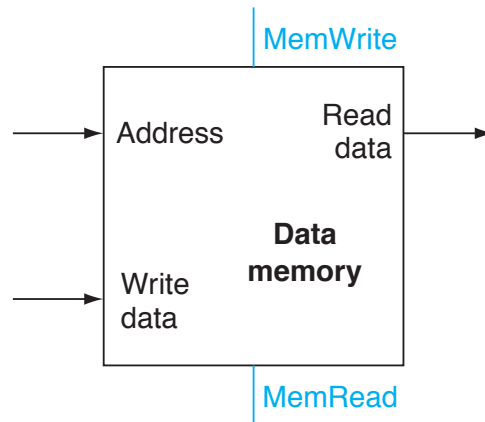

Figure 2: The Data Memory for the MIPS processor
- The data memory provides the microprocessor with a means of storing more long term data. The data memory, in comparison to the register file, is typically much larger in size (i.e. in the kB to MB range) but does not provide as much parallel access, meaning it has less data ports. Figure 2 shows the data memory module that you will describe in Verilog for the MIPS processor implementation. For our implementation, the data memory will provide synchronous read and synchronous write capabilities and include both a read and write enable signal. Access to the memory requires only a single clock cycle, which simplifies the overall design of our microprocessor, but limits the size of memory we can instantiate due to timing constraints. Also note that the storage element in Figure 2 includes only one address port, which means data cannot be written while being read and only one data element can be retrieved at a time.
- (a) Using Figure 2 as a reference, describe a data memory module in behavioral Verilog to the following specifications: